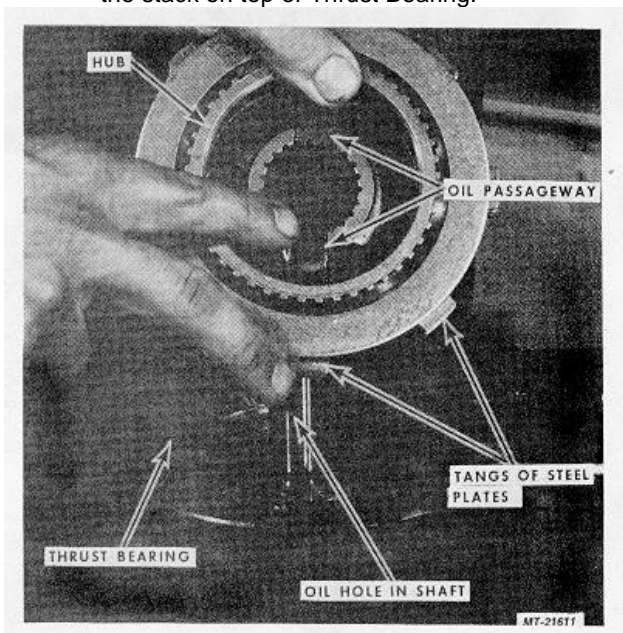

Fig. 81
44. Install Thrust Bearing on Thrust Washer Fig. 81. Remove the stack of plates (Facing Plates and Steel Plates) with Hub and Backing Plate from the Bearing Retainer Assembly. Align the Hub Oil passageways, tangs of Steel Plates and the oil hole in the Shaft and place the stack on top of Thrust Bearing.